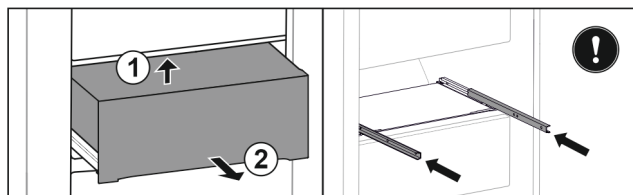

*Fig. 111*
- ▶ Lift up drawer at the front. *Fig. 111 (1)*
- ▶ Remove drawer to the front. *Fig. 111 (2)*